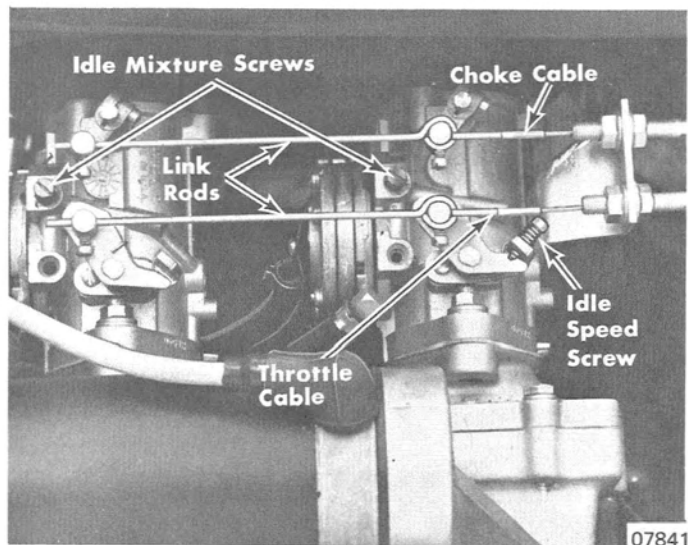

Figure 2. Mark II Carburetor
2. Back off idle speed screw (Figure 2) so that it will not affect carburetors.
4. Tighten link rod anchor screws on right carburetor (left carburetor in Figure 2).
5. Tighten choke and throttle cable anchor screws on left carburetor (right carburetor in Figure 2).